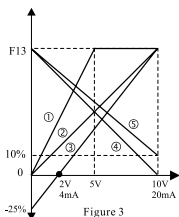

Figure 3
※ Please refer to Figure 3 and see the description of parameter along different curves in the table below :
2. In Figure 3, F56 set value is 4 for the display of output voltage, F58 set value is 2200, reference standard point is 220V, and the analog output signal AO is DC +10V.